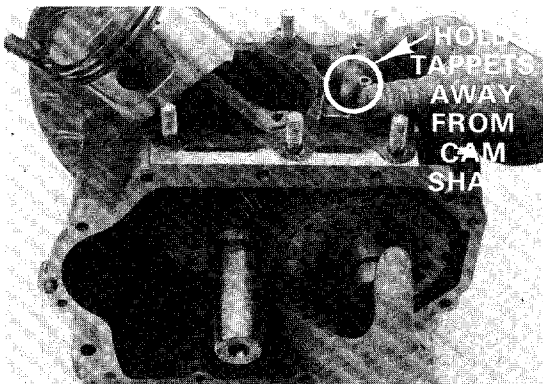

Figure 6-31
4. Lift and hold valve tappets away from cam lobes. Remove cam shaft (94) by carefully pulling it out. Identify the intake and exhaust tappets so that they can be installed in the proper position and remove tappets (**Figure 6-31**).